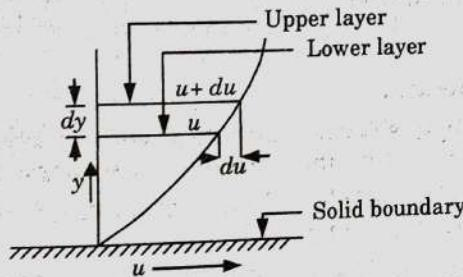

Fig. 3.2.1. Velocity variation near a solid boundary.
- From Fig. 3.2.1, let two layers of fluid at a distance ' dy ' apart, move one over the other at different velocities u and $u + du$.